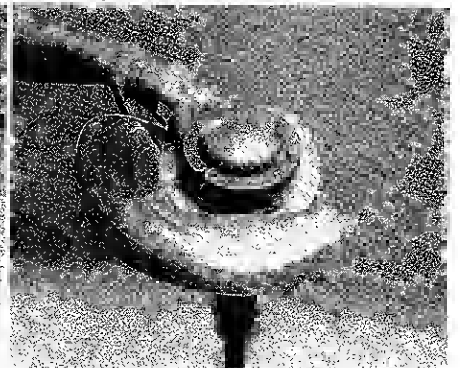

FIGURE 5
5. Place the guard with the three mounting tabs on the inside of the bottom flange of the housing. Insert the screws from the inside of the flange. Figure 5. Place the nuts on the outside and tighten.